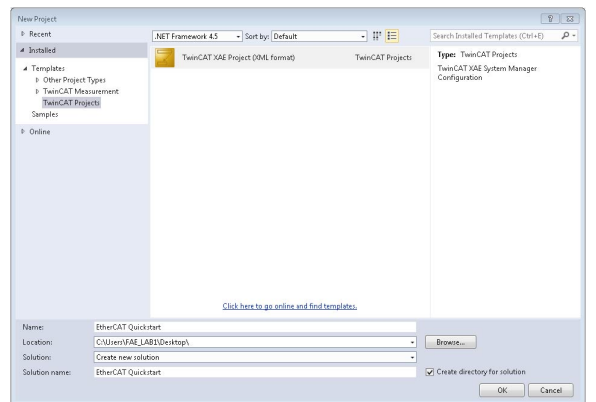

Figure 11. New Project Window
2. Go to **File** and select **New Project** from the dropdown menu. Rename the project as desired. For this example, name the project **EtherCAT Quickstart**, and click **OK** to display the New Project screen (see Figure 11).